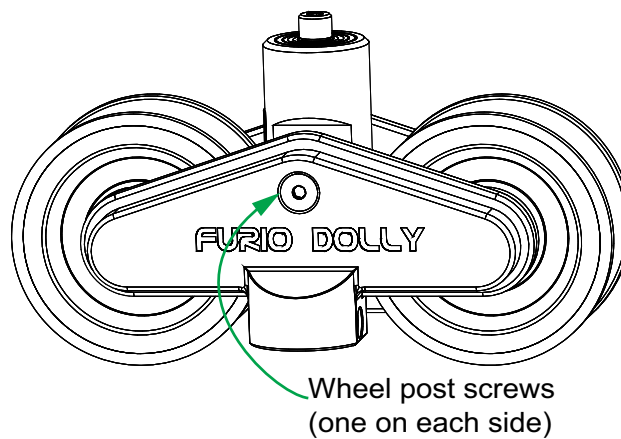

Figure 7 - Removing the Passive Wheel Post Screws
1. Using two 5 mm hexagonal wrenches in opposition to each other, remove one of the screws that holds the wheel unit together. Refer to **Figure 7**.